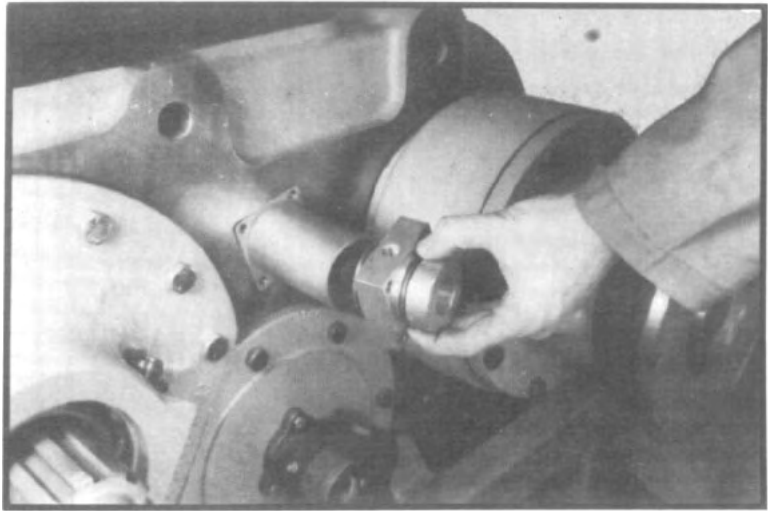

Fig. 19
7. Remove neutral cylinder adapter, discarding o-rings. (See fig. 19.)